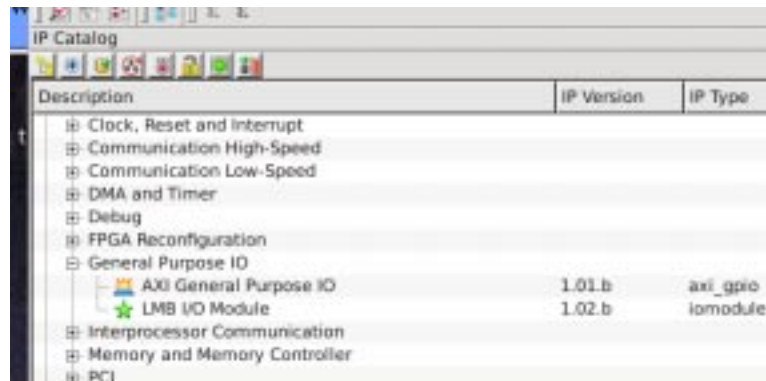

Figure 2: Adding an AXI GPIO.
5.3 An instance of an AXI GPIO will be added to the system. Expand the General Purpose IO tab on the left hand side under IP Catalog (refer to Figure 2) and double click the AXI General Purpose IO